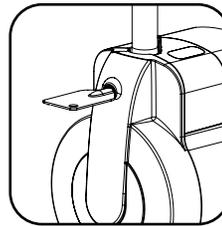

Figure 7
3.1 Insert the Pürleve key into cover lock, turn (either direction) and open cover (Fig. 7)